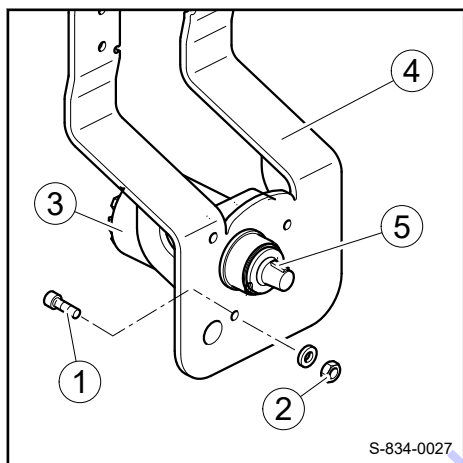

Fig. 263
1. Mount travel motor 3 ↗ Fig. 263 with hexagon screws (1), washers and nuts (2) to the support leg (4).
2. Install the feather key (5) in the travel motor (3).